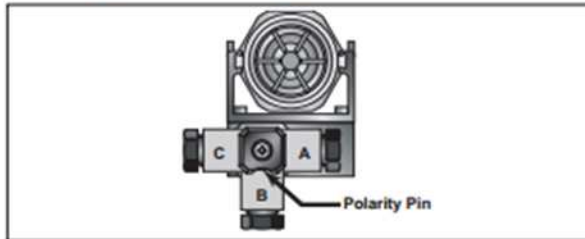

Figure 15. Polarity Pin
3. After securing wires to solder lugs, determine which direction the body of the connector should face. Before snapping the connector into place, refer to Figure 15.